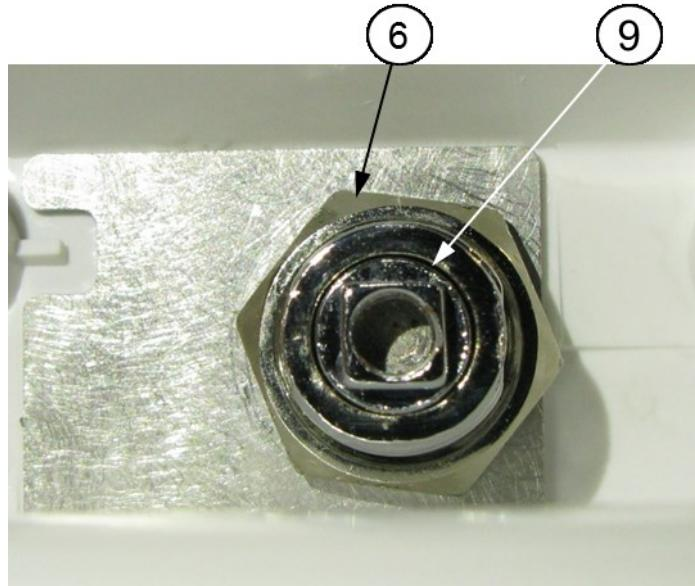

Fig. 90 PCA lock nut tightening
3. Using Flat-nosed pliers TB-6 screw the **Lock nut** (6) as shown in Fig. 90 until mechanical resistance is felt.
4. Using the PCA lock key set the **PCA lock** (9) into one of two end positions – with the key slot set to the approximate vertical position.